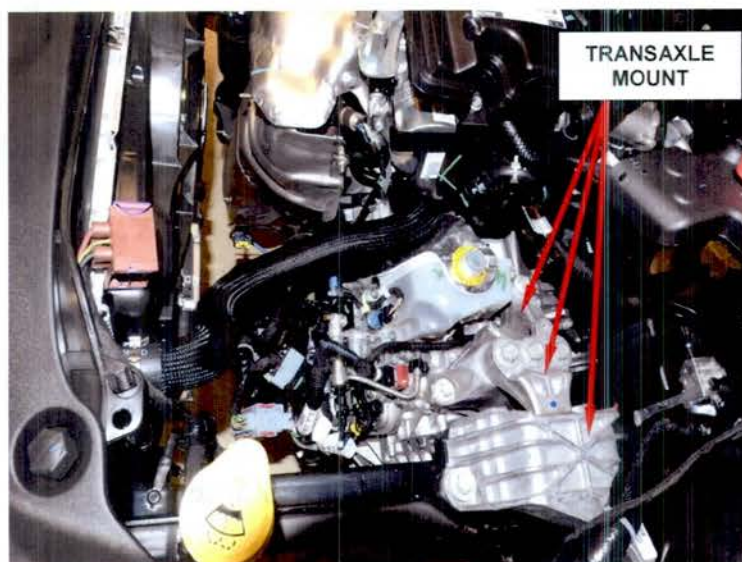

Figure 8 – Transaxle Mount
27. Remove and save the transaxle mount (Figure 8).